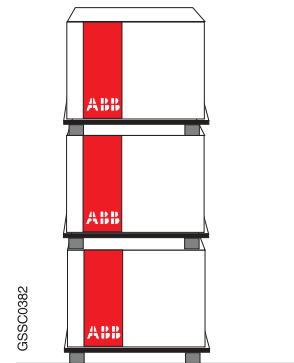

Fig. 3
- The maximum number of stackable packs is indicated in figure 3.